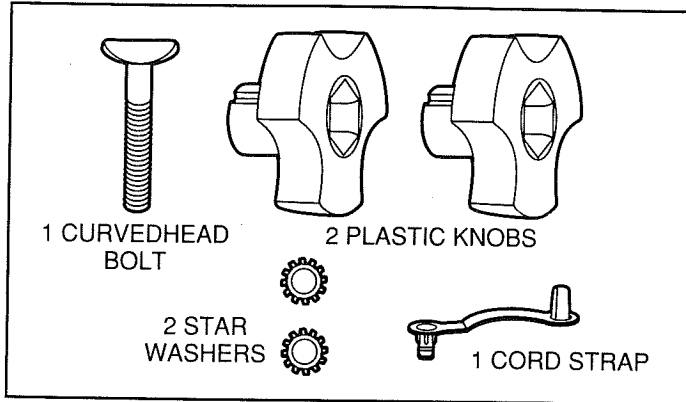

FIGURE 1
- Your mower carton contains the mower and 1 plastic bag. The bag contains 1 curved head bolt, the two plastic knobs, 3 star washers and the cord strap required for assembly. These parts are shown in Figure 1.